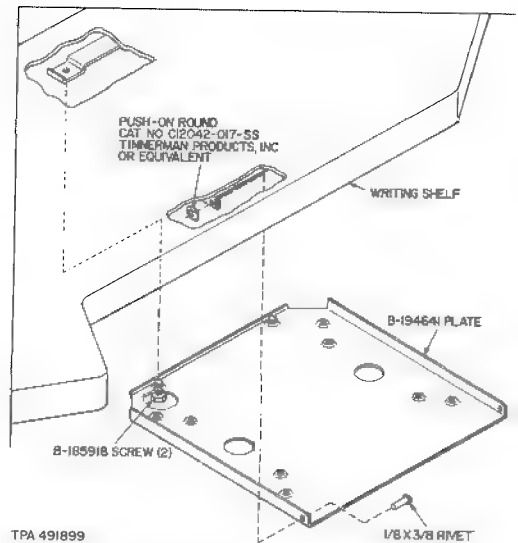

Fig. 3—Installation of Subscriber Set Mounting Plate
- (2) The subscriber set is mounted under the shelf with brackets, mounting plate, and hardware furnished with the List 5 kit. Install the mounting plate in accordance with Fig. 3.
- (3) Sufficient wire is furnished with the List 5 kit for connecting the subscriber set to the coin collector.